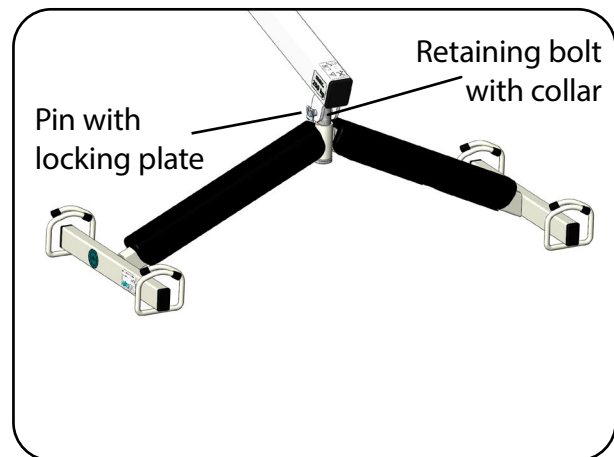

Fig. 6.2.08 - Spreader bar installed
17. Attach the spreader bar with the inserted retaining bolt with collar to the lifting arm by inserting the bolt through the holes on the end of the lifting arm. Secure the bolt with the locking plate (Fig. 6.2.08).